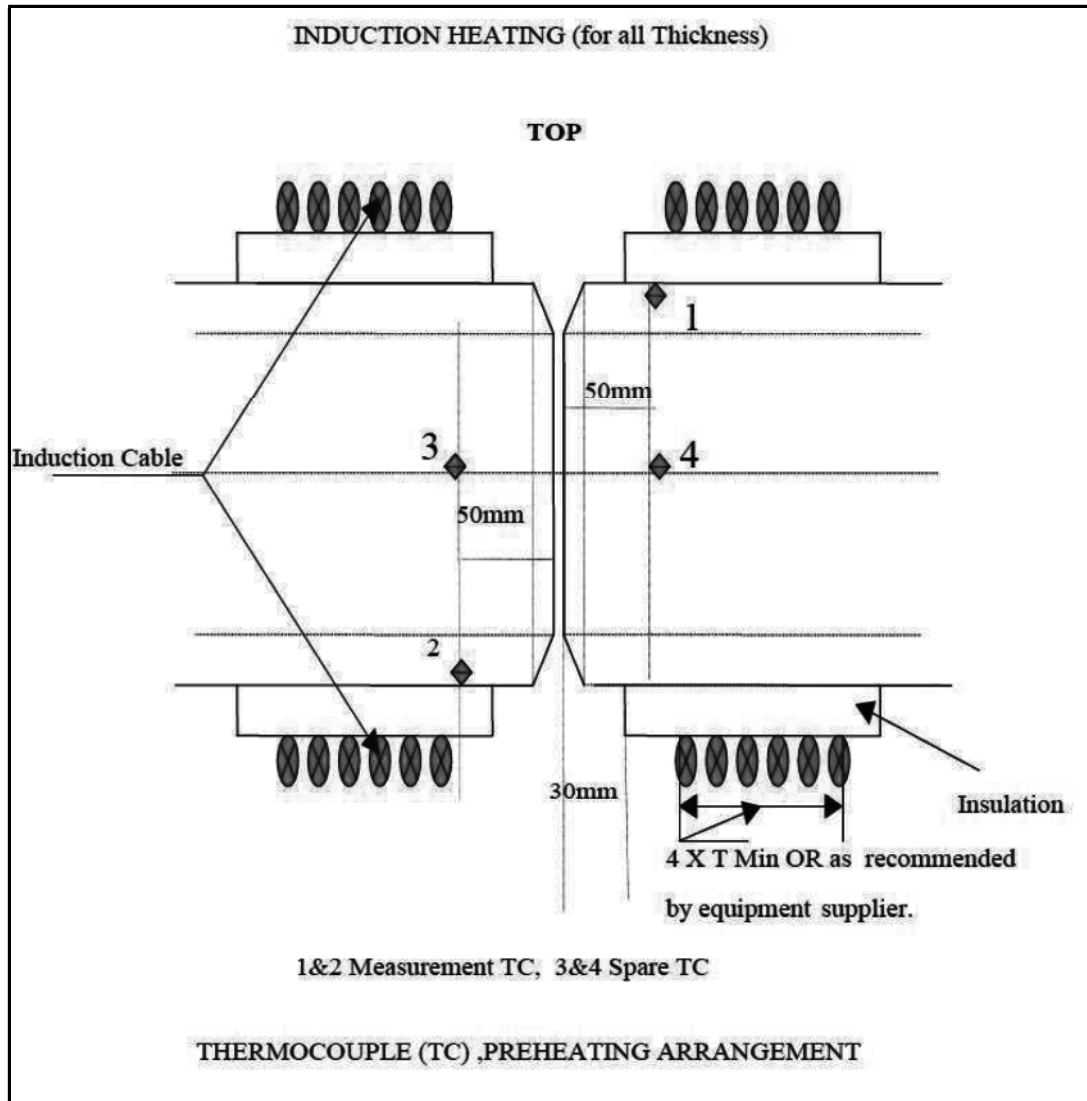
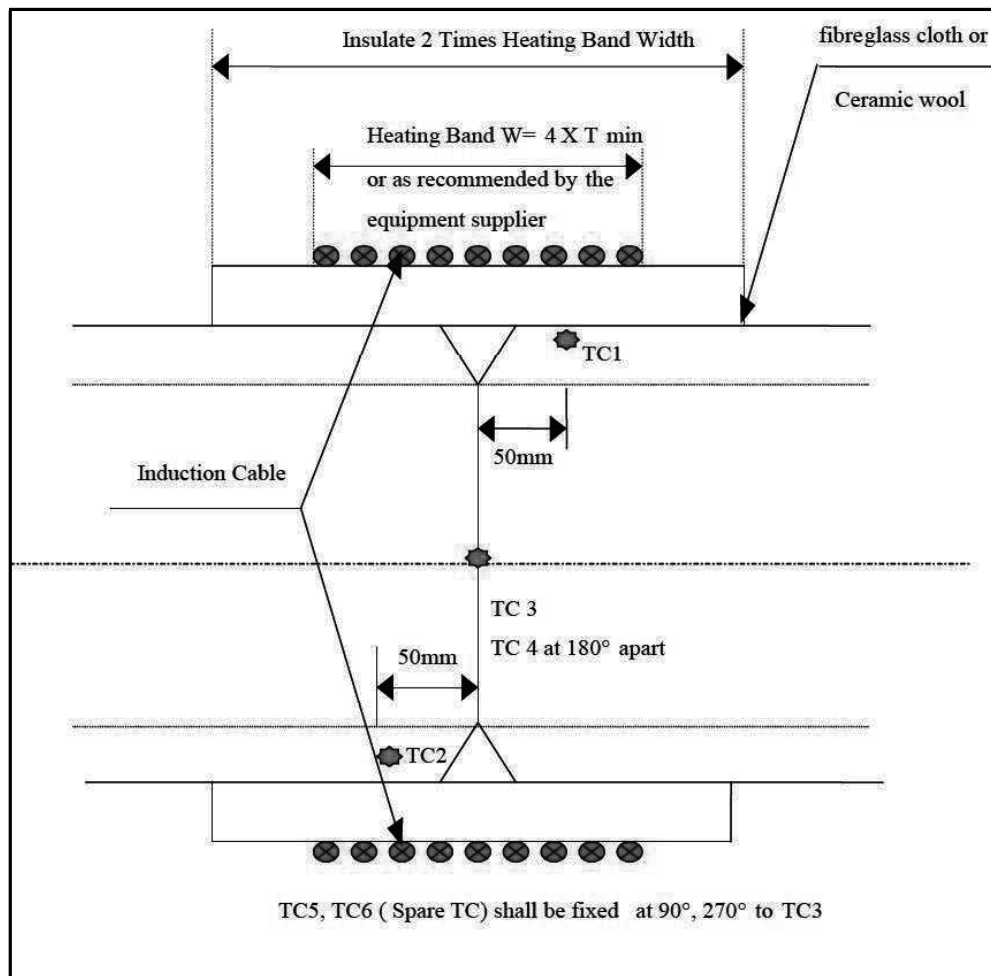

Figure 1.1: Placement of Thermocouples on P91/P92/F91/F92/C12A materials for Preheating
Figure 1.2: Placement of Thermocouples on P91/P92/F91/F92/C12A materials for PWHT
- (1) Thermo couples: Ni-Cr / Ni-Al of 0.5 mm gauge size (K-Type).
- (2) Temperature Recorders: 6 Points / 12 Points/ 24 Points.
- For placement of thermocouples on P91/P92/F91/F92/C12A Figure 1.1 shall be referred for preheating and Figure 1.2 shall be referred for PWHT.
3.2.11.1 A minimum of four thermocouples shall be placed such that at least two are on the weld and the other two on the base material on either side of the weld within the heating band, 180° apart, at a distance of 50mm (approximately) from the center of the weld joint as per Figure 1.2. Two standby thermocouples shall also be provided on the weld (to be used in case of any failure of the thermocouple).
- 3.2.12.2 Figure 1.2 & 1.3 of this manual shall be referred for Resistance heating coil arrangement for Preheating and PWHT of T91/T92 tube assembly.